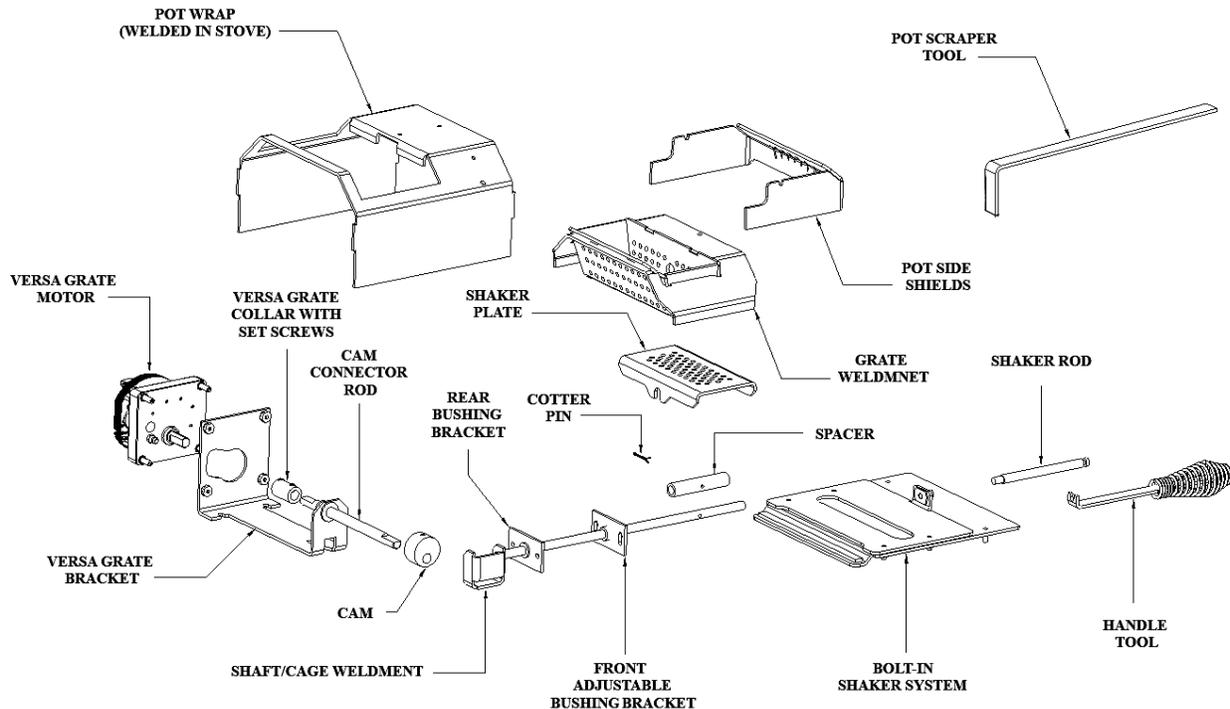

Figure 23
This feature allows the stove to operate for longer periods of time without the grate requiring cleaning. If the flame becomes dark orange, is accompanied by black smoke or burns with a lazy motion - it's time to clean the grate. Frequency of cleaning depends on the amount of fuel being burnt and the quality of the Fuel. Poor quality fuel will require more frequent cleaning of the Versa Grate System shown in figure 23.
1. Check Grate Weldment and Shaker Plate (See figure 23) to determine if holes are plugged. Clean as needed. With proper precautions the grate may be partially cleaned while the stove is hot. Follow these steps:
- d. Use the “Pot Scraper tool” provided to move the burning pellets to one side of the grate, leaving the ash in the bottom of the grate. (See Figure 23 and 24)
2. **Grate Weldment and Shaker Plate.** Clean Grate Weldment and Shaker Plate holes whenever needed. Remove the Burnpot and use a small metal object (Nail, Drill Bit, etc) to clean out plugged holes. (*See Figure 23*). The Grate Weldment and Shaker Plate holes can also be cleaned without removing them by using a small steel brush to clean the holes.
3. Pull the Ash Shaker Rod (*See figure 23*) several times back and forth to shake the ashes down into the Ash Pan.